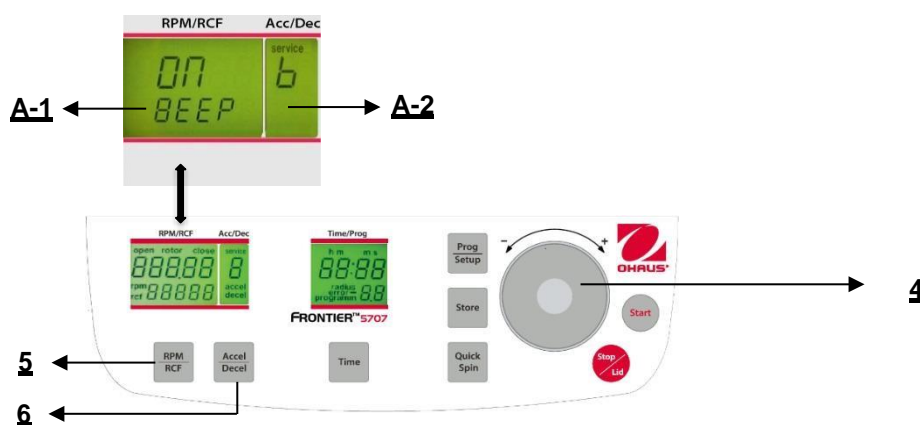

Figure. 32
Proceed as described under point 4.1.2 to enter this program mode and then press the key "Accel/Decel" (6). In the display "Acc/Dec" (A-2) the word "Service" flashes. Now select the letter "B", with the adjusting dial (4). As a result, in the display "RPM/RCF" (A-1), the word "ON/BEEP" appears. After pressing the key "RPM/RCF" (5), you can turn the keyboard sound (On) or (Off) with the adjusting dial (4). (See figure 32).